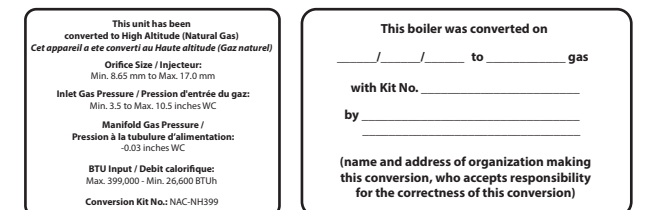

Figure 10. Proper Placement of Gas Conversion Labels
13. Once the CO₂ or offset values have been confirmed, apply the included conversion stickers to show that the appliance has been converted to propane gas or high altitude. Place these labels adjacent to the rating plate as shown in Figure 10.